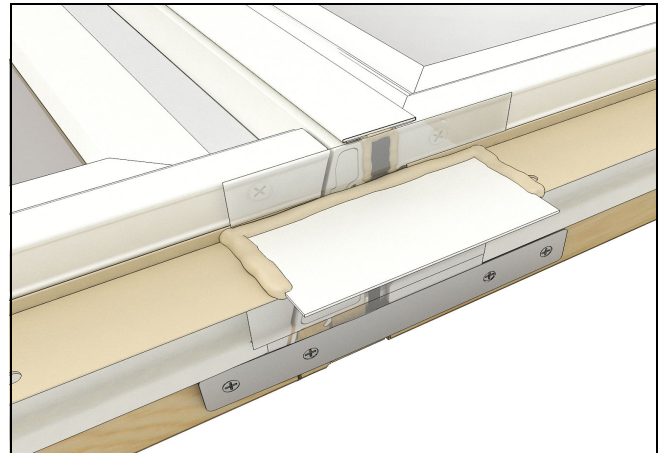

Figure 65
51. Apply nailing fin connector at the jambs centered over the gap between separate nailing fins as needed by removing the paper backing from the connector and pressing into place. Then seal around the edges with sealant as shown. See Figure 65.